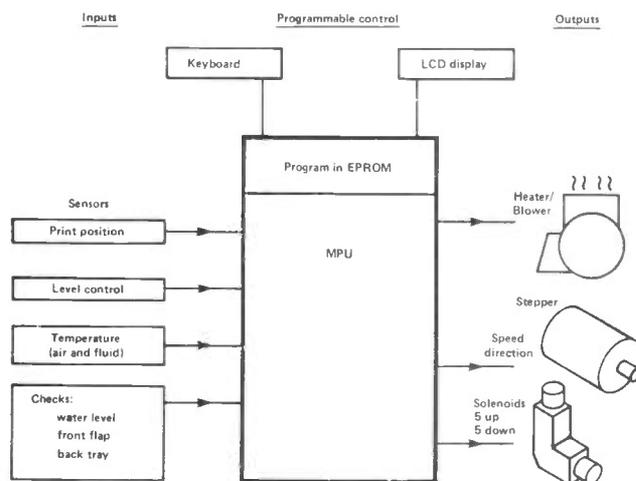

Figure 5: The control system.
Let us take a more detailed look at the electronic and mechanical interfaces that make the whole thing possible. This is summarised in *Figure 5* which is a schematic diagram of the control system.
**Output:** As *Figure 5* suggests, the outputs are to the stepper motor, to the drier/heater fan and heating elements, and to the solenoid pinch valves which, as I outlined earlier, are used to select the chemicals.